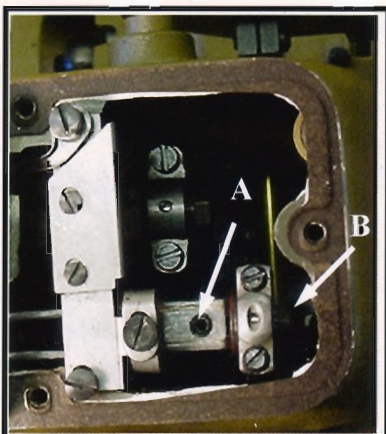

fig. 3
If additional adjustment is required, it can be obtained by loosening set screw (A, *fig 3*) and turning the eccentric ball joint stud (B), located at the right end of the needle bar frame under the top cover, either clockwise or counterclockwise.